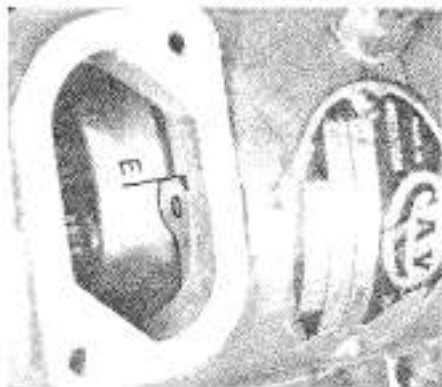

Fig. 95—The "E" timing mark on injection pump rotor should align with square end of snap ring when flywheel timing mark is aligned as shown in Fig. 94.
**98. PUMP STATIC TIMING.** To check pump timing, shut off fuel at fuel tank. Remove timing window cover (C—Fig. 98) from injection pump and remove engine timing window plug from left side of flywheel housing adapter plate. Turn crankshaft until No. 1 (front) piston is coming up on compression stroke and the correct degree mark for static timing is aligned in flywheel timing window (Fig. 94): 16° BTDC for MF245 and MF250, 24° BTDC for MF230, MF235 and MF240. At this point the "E" mark on injection pump rotor should align with square end of snap ring as shown in Fig. 95.